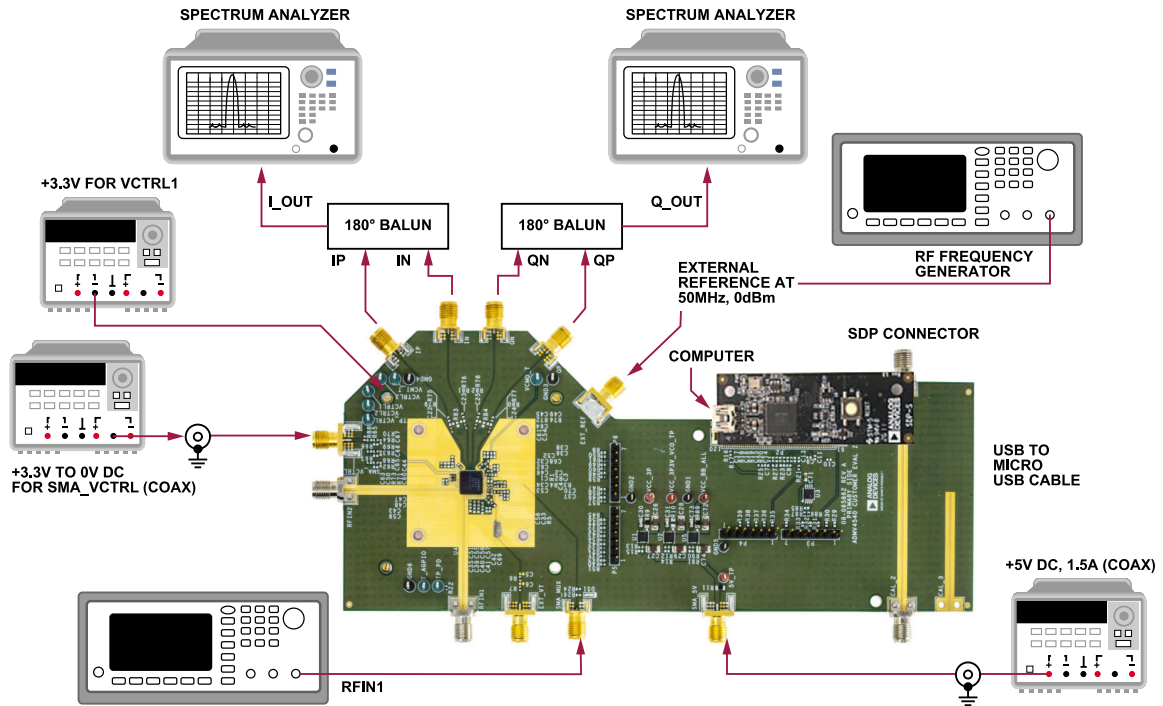
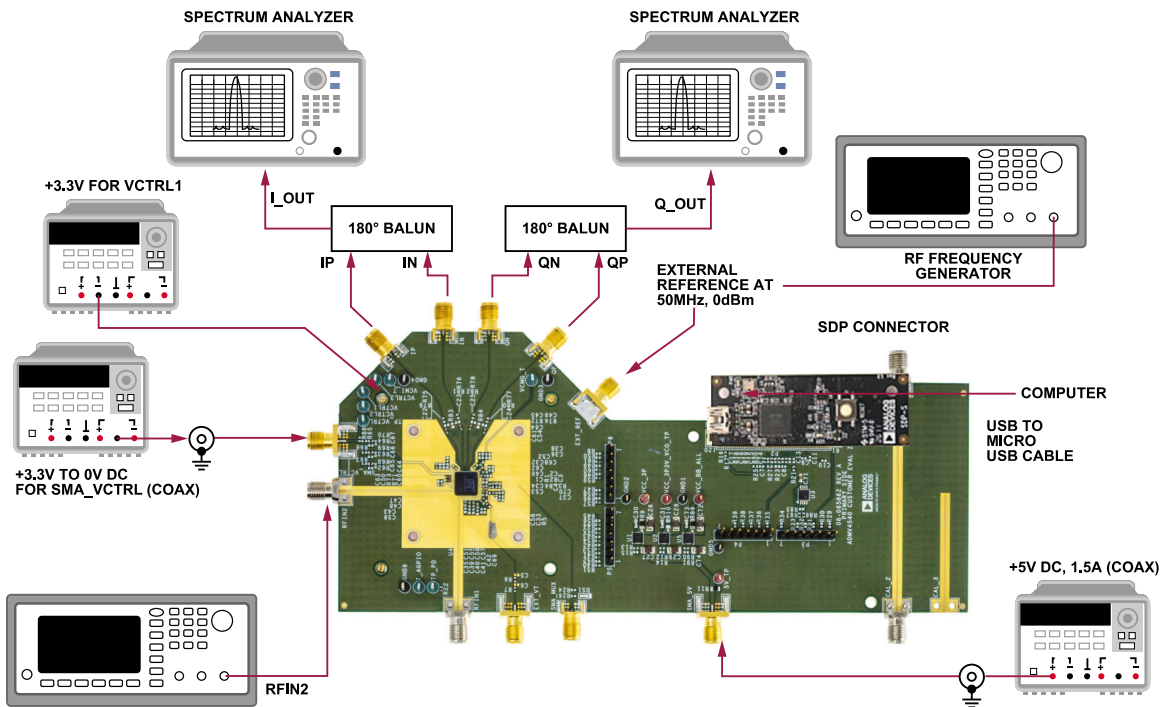

Figure 3. ADMV4540 Lab Bench Setup for the RFIN1 Input
Figure 4. ADMV4540 Lab Bench Setup for the RFIN2 Input
Figure 3 and Figure 4 show the lab bench setups for the ADMV4540-EVALZ RFINx inputs. Note that I\_OUT is the combination of IP and IN, and Q\_OUT is the combination of QP and QN in Figure 3 and Figure 4.
5. Connect the IP, IN, QN, and QP cables as shown in Figure 3 and Figure 4.